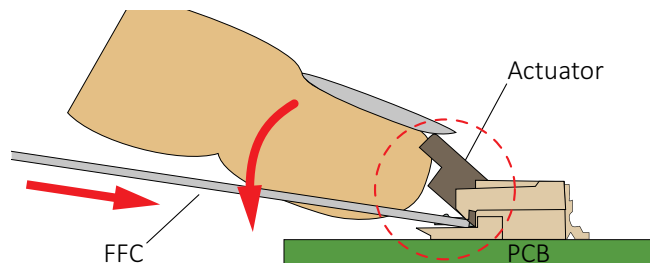

Figure 9: Engaging the FFC in the 36-pin FFC flip connector
4. Holding the FFC in position, flap down the actuator to closed position (see Figure 9).